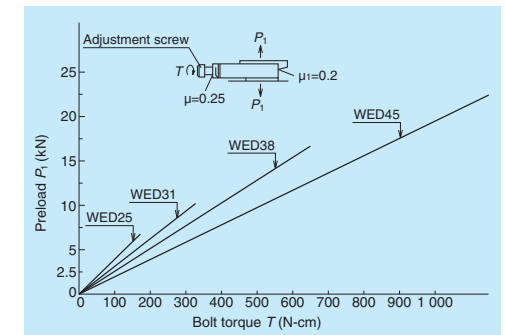

Fig. 5 Tightening torque of the adjustment screw, and preload volume
**Fig. 5** shows conversions of tightening torque of the wedge block adjustment screw into preload volume. Use a dial gauge for accurate measurement.